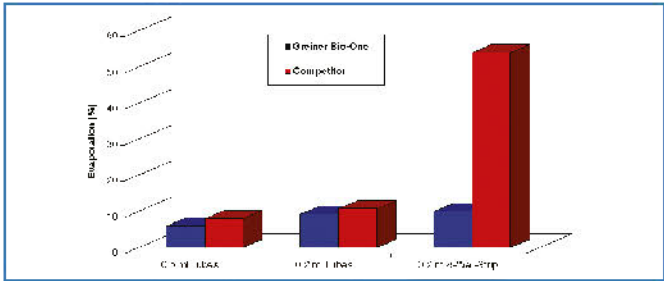

Figure 1: Evaporation in PCR tubes filled with H₂O measured according to the weight loss after 2 hours' incubation at 100 °C.
- Low evaporation rate in PCR (Fig. 1)
- Low evaporation rate in PCR (Fig. 1, p. 184)